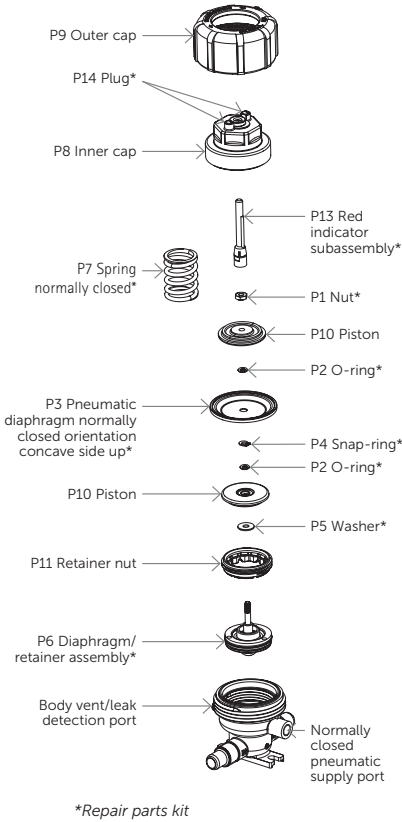

Figure 4.
1. Refer to Figure 4. Hold the inner cap (P8) with an adjustable wrench (S6) while turning the outer cap (P9) counterclockwise with the outer cap wrench (T1).
11. Put lower piston (P10) in place on the pneumatic diaphragm stem. Orient the ribs facing away from the pneumatic diaphragm (P3) as shown in Figure 4.
14. Place the pneumatic diaphragm (P3) onto the diaphragm stem with the concave side facing up. (See Figure 4.) Make sure the bead on the outside of the pneumatic diaphragm (P3) fits evenly within the groove on the body.
16. Put upper piston (P10) in place. Orient the ribs facing away from the pneumatic diaphragm (P3) as shown in Figure 4.